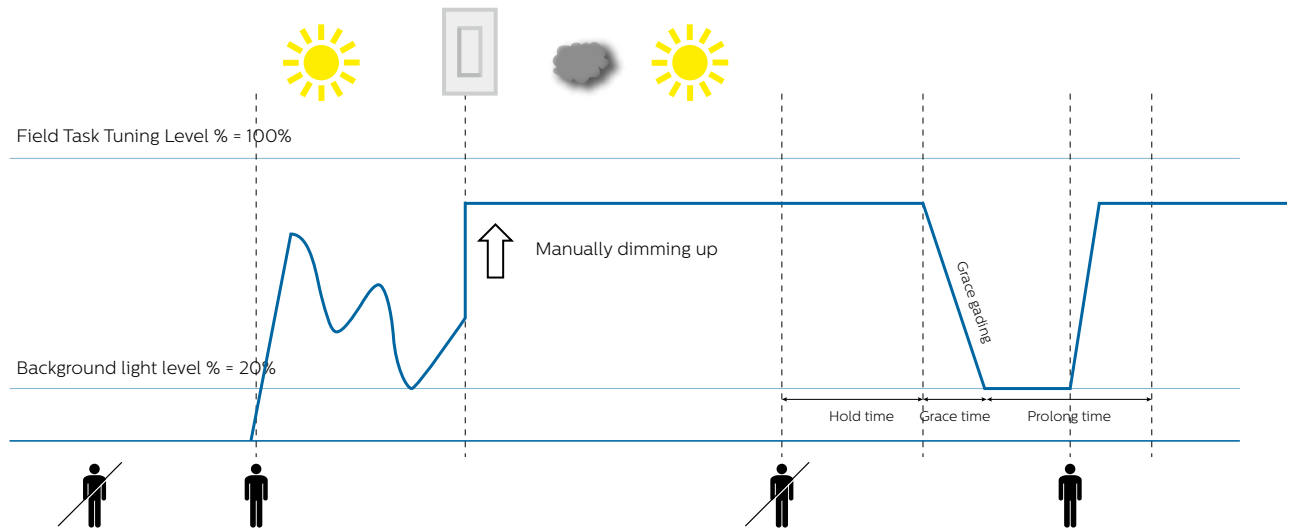
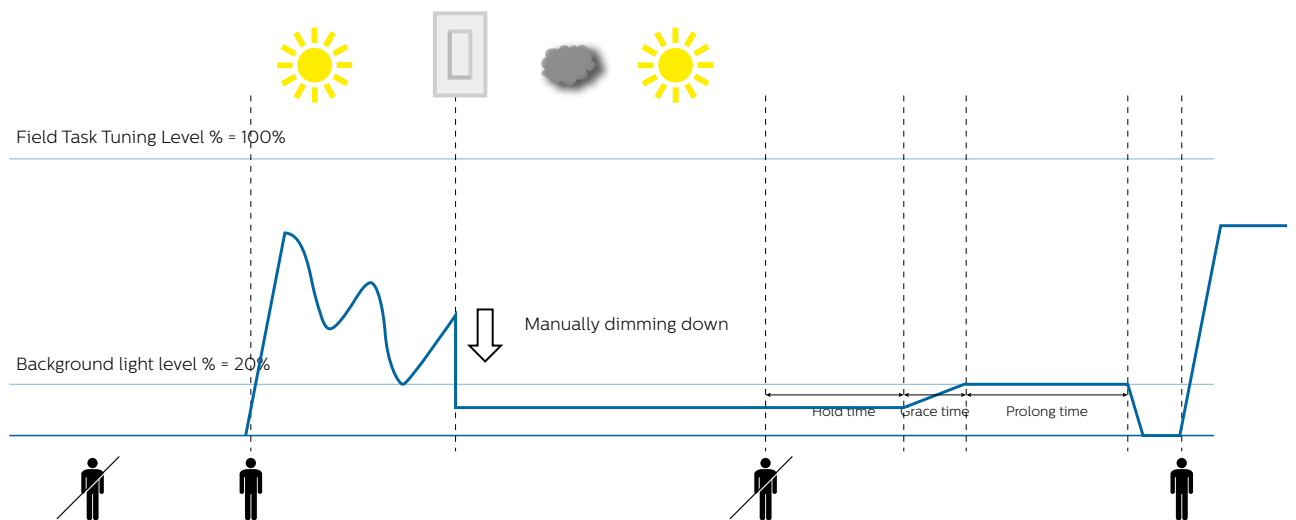

Figure 10. Auto-on/auto-off with manual dimming override.
Figure 11. Auto-on/auto-off with manual dimming override.
- Light level can be set to an intermediate level by manual dimming override using the wireless switch. When a manual dimming override is performed, daylight-based control is disabled, and light will be on constantly at this level. When the room becomes unoccupied, the light goes to the background light level during prolong time, and if the occupant enters the room before prolong time expires (Figure 10), the light will stay at the level set by the manual dimming override. If the prolong time expires, the light will turn off and go to the maximum light level when occupant enters the room (Figure 11).